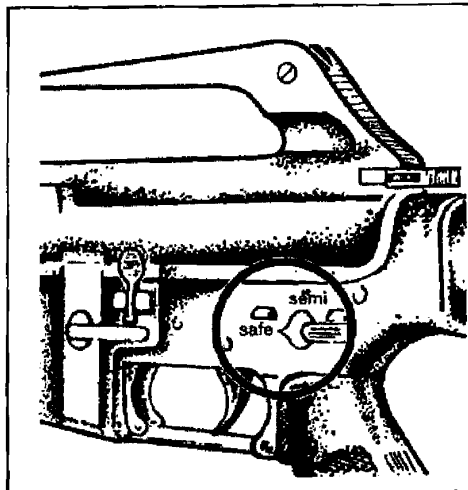

Figure 071-311-2025-1. Selector lever on safe
d. Lock the bolt open (figure 071-311-2025-2).